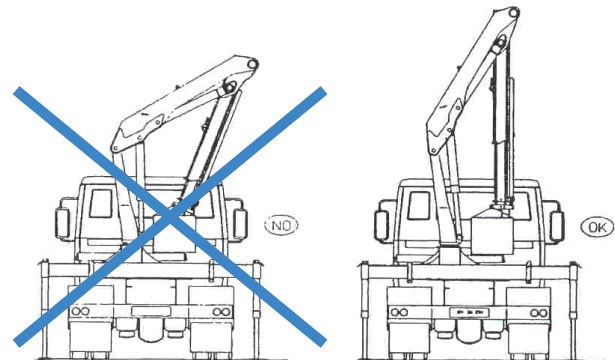

Figure 8.9: Never handle loads with the outer boom or fly jib in a negative position
- Do not handle loads with the outer boom or fly jib in a negative position (Figure 8.9).